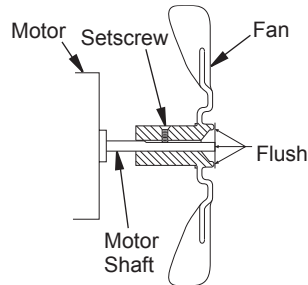

Figure 14 - Fan Cross Section
6. Replace fan on motor shaft. Place fan hub flush with end of motor shaft (see Figure 14).